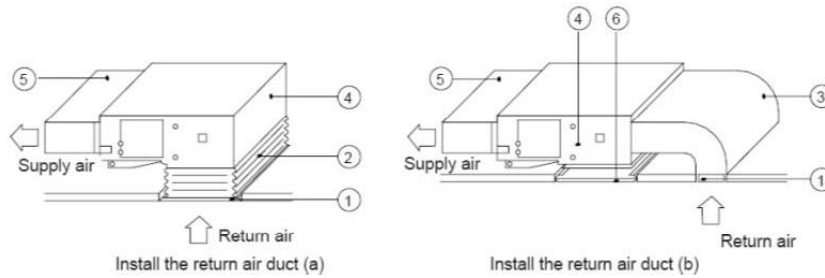

Fig. 4.36
5. The installation method should be chosen with considering the conditions of the building and maintenance etc., as shown in Fig. 4.36.